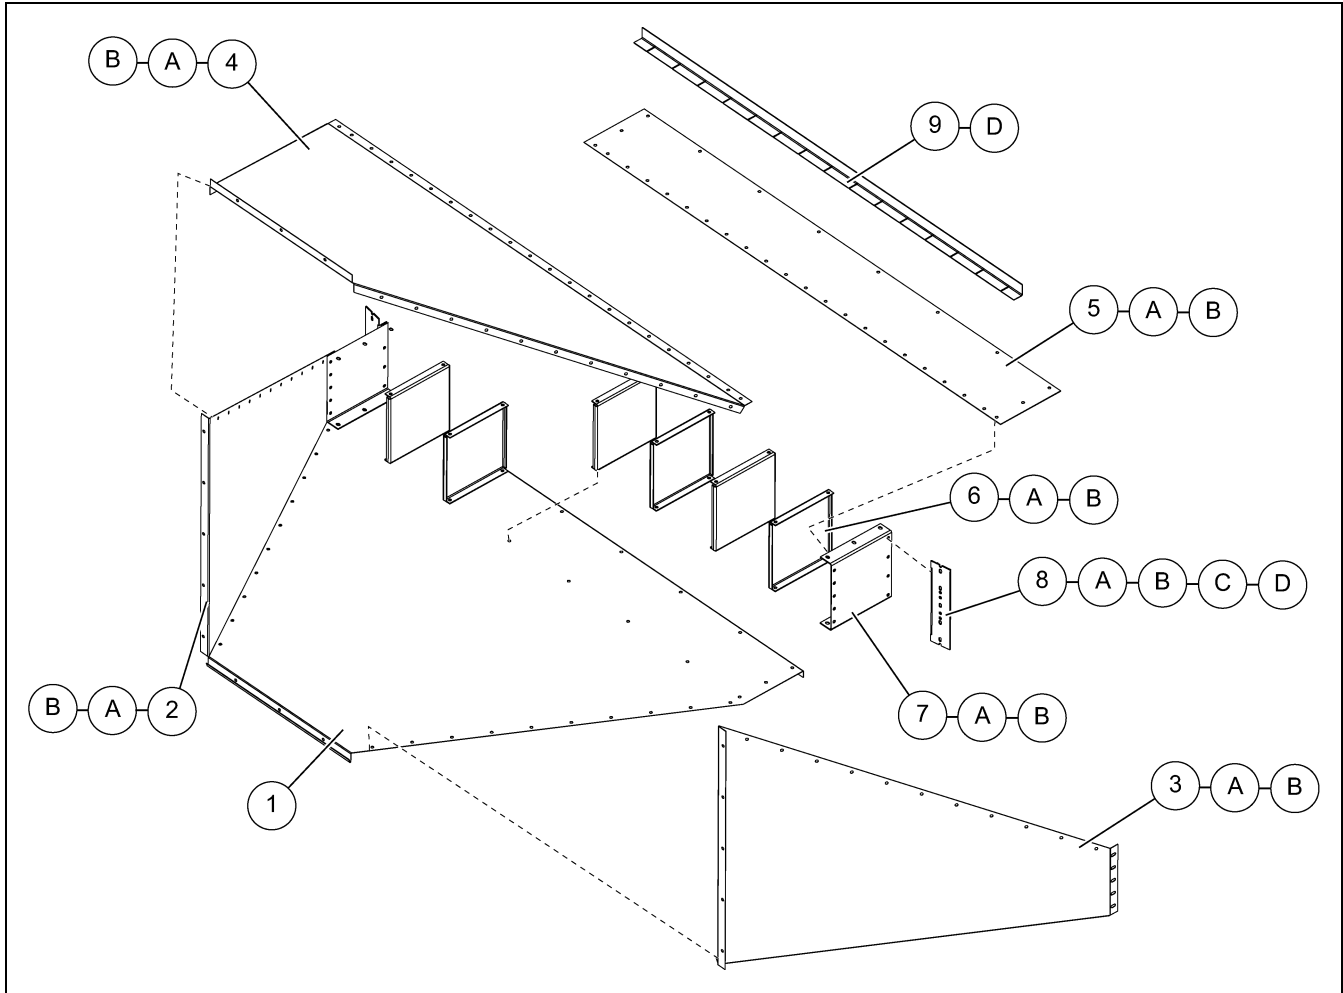

**Figure 1** Bottom Panel Flange Detail
2. Bottom panel flanges should always be on the “outside” of the transition assembly. Refer to bottom panel flange detail in *Figure 1* for proper flange direction and assembly of individual flange type. Bolt bottom panel to all entrance collar braces (6) and side entrance collar (7) pieces. Be sure and use 5/16" x 1" bolts (A) and nuts (C).
3. Install and bolt top entrance collar to entrance collar braces (6) and side pieces. Bolt transition sides to bottom panel. After sides are complete, bolt top panel into position. Be sure and use 5/16" x 1" bolts (A) and nuts (C) on all pieces.
5. Install entrance collar mounting brackets (8) to transition on inside of bin. Be sure and use 5/16" x 1" bolts (A) and nuts (C).
6. Using 5/16" x 1-1/4" bolts (B) and nuts (C), install entrance collar mounting brackets (8) to bin sidewall. Installer must seal between bin sidewall and entrance collar mounting brackets (8). No sealer is provided.
7. After putting transition on bin, locate sizing angle (9) to curvature of bin, screw to top entrance collar and to bin sidewall. Use #10 x 1" screws (D).